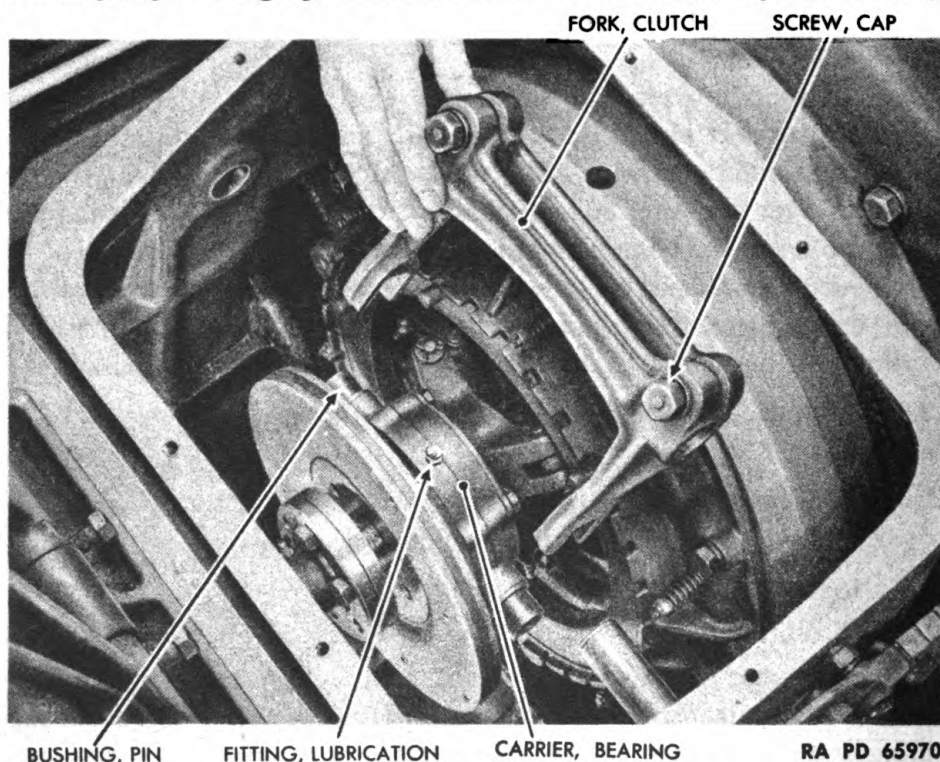

Figure 27 — Clutch Fork Installation
(5) INSTALL THE CLUTCH FORK (fig. 27).